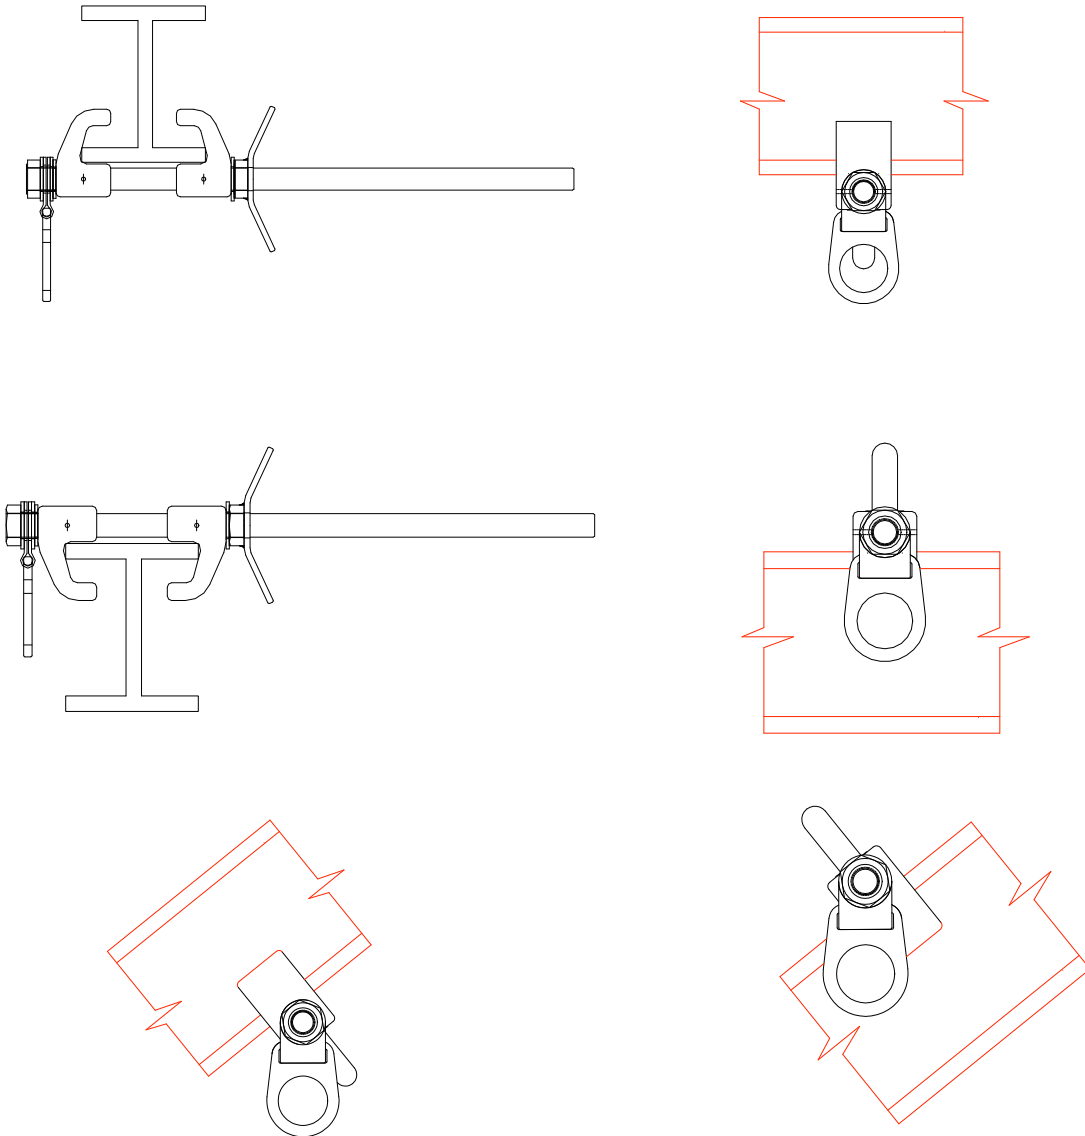

Figure 1
To attach the Beam Clamp, loosen the hand-knob to desired width, slip over the I-beam flange as shown in Figure 1 and tighten the hand-knob as to 40-ft-lb. Check tightness again prior to each use. **DO NOT** stand on either the nut or the threaded rod or the handknob. **DO NOT** use if the clamp does not grip the beam securely enough to prevent any side movement up or down the beam. **DO NOT** use on open ended beams.
- When used as a personal fall arrest attachment anchorage, use only in the supplied configurations as shown in Figure 1.